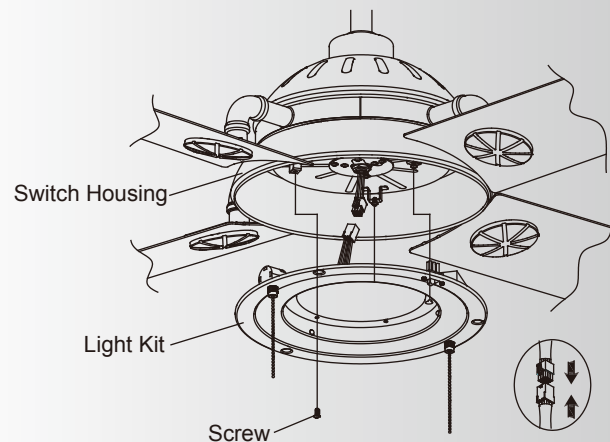

Fig. 19
Step 1. Remove 1 of the 3 screws on switch housing and loosen the other 2 screws (do not remove). (Fig. 19)
Step 2. The Square plastic wiring connector from the motor body and light kit will only fit together one way. Match up the color on the side of each connector, then push them together until the snap engages. (Fig. 19)
Step 3. Align the key holes on the light kit with the 2 screws on the edge of the switch housing. Turn light kit until it locks in place at the narrow end of the key holes. Tighten the 2 screws and reinstall the third screw, making sure all three screws are tight and secure. (Fig. 19)